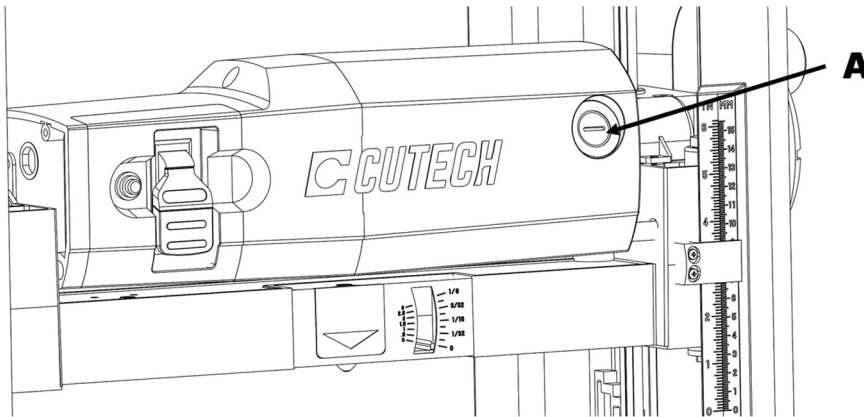

FIG 13
1. Remove the brush holders, one of which is shown at (A). The other is located in the same position on the rear of the motor assembly. The Brush Holder can be removed using a flat blade screwdriver. SEE FIG 13.